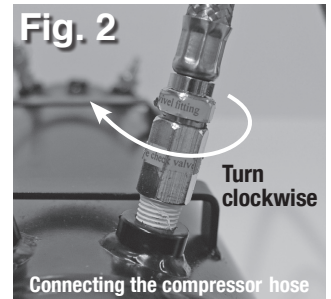

Fig. 3
6. Push the plastic hose fully onto the tanks outlet fitting and tighten the brass nut. **CAUTION:** Do not over tighten the brass nut. (Fig. 3)